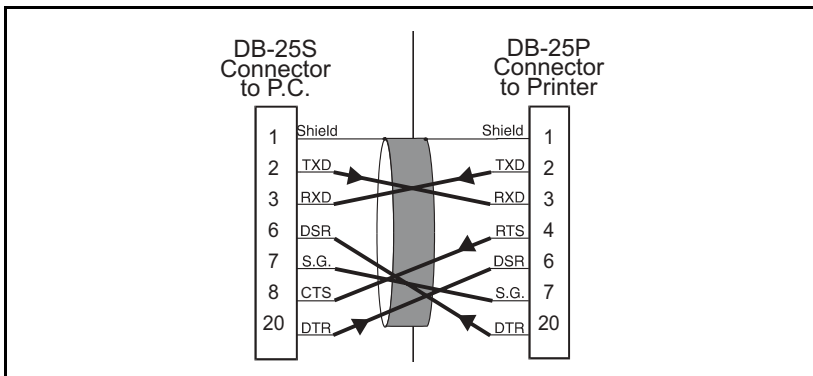

Figure 37
- **25-pin to 25-pin cable** – (null modem cable) must have a 25-pin “D” type (DB-25S) connector on the end that is plugged into the serial port at the computer and a 25-pin “D” type (DB-25P) connector on the other end that is plugged into the connector at the rear of the printer. Figure 37 shows the required cable connections.